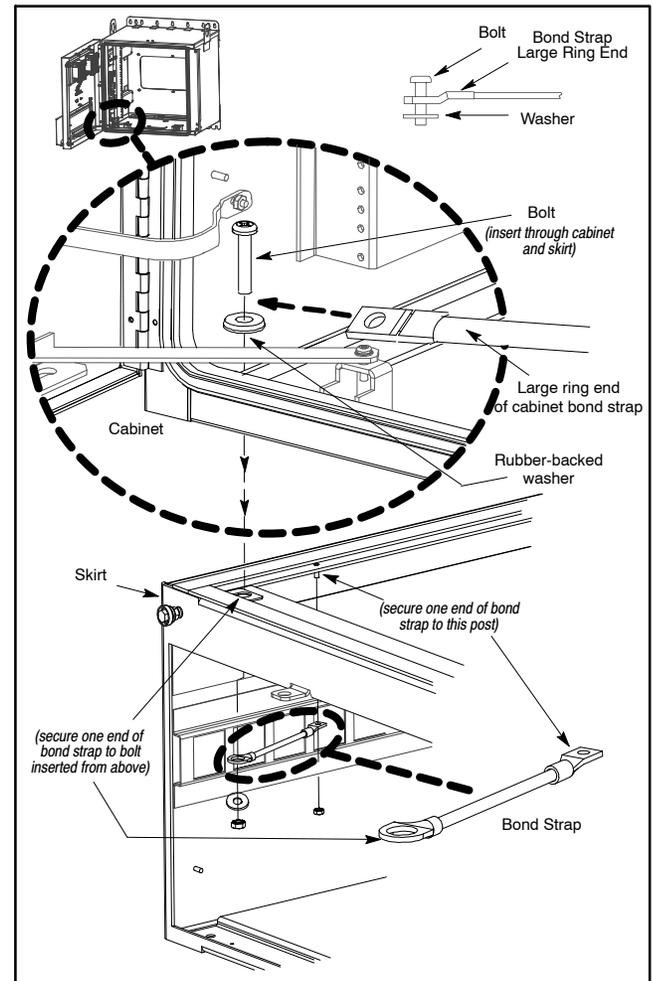

Figure 9. Installing Skirt Bond Strap
3. **Install other end.** Install the ring end with the smaller hole between a provided washer and screw, in the bottom front left corner in the cabinet, as shown in Figure 9.